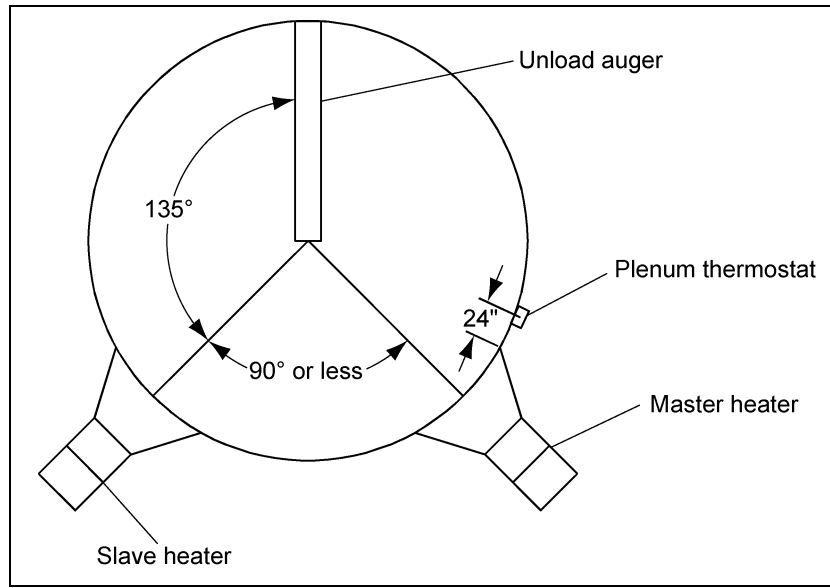

Figure 5C
**IMPORTANT:** When mounting two (2) heaters on a bin it is imperative that they be situated as shown in Figure 5C. Plenum thermostat must be to the right of master heater and master heater must be to the right of slave heater.